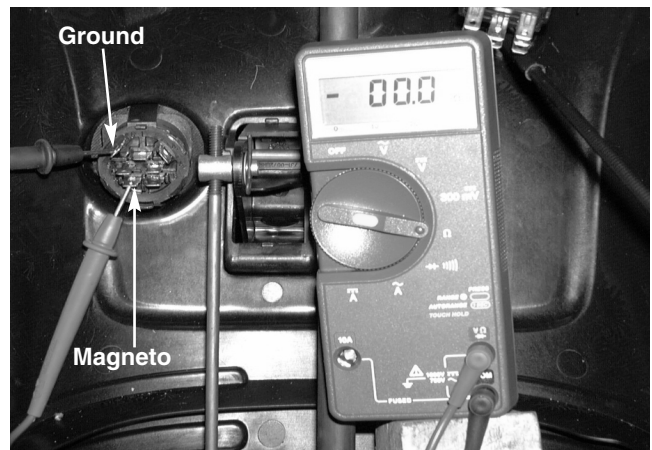

FIGURE 21.
- 6). Leave the key in the **OFF** position. Place the test probes on the M and G terminals. -There will be **CONTINUITY**. See figure 21.